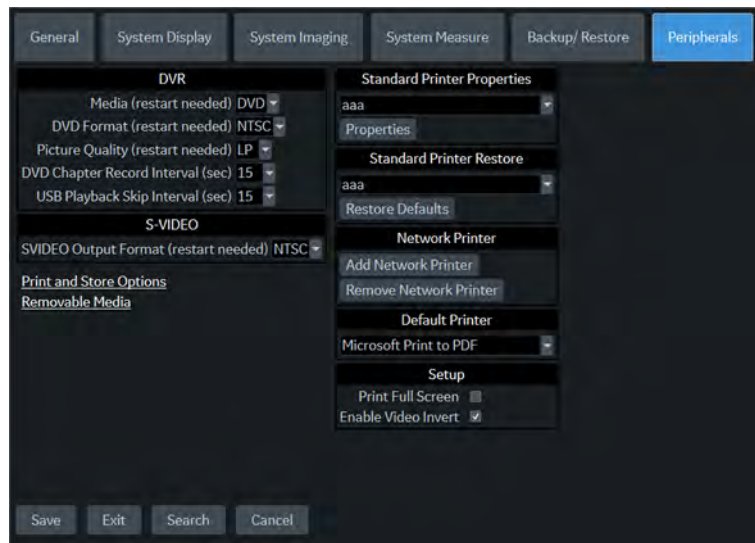

Figure 9-30. Network Printer
1. On the Utility ->System ->Peripherals page, Under “Network Printer,” select **Remove Network Printer** (Figure 9-30 on page 9-51).